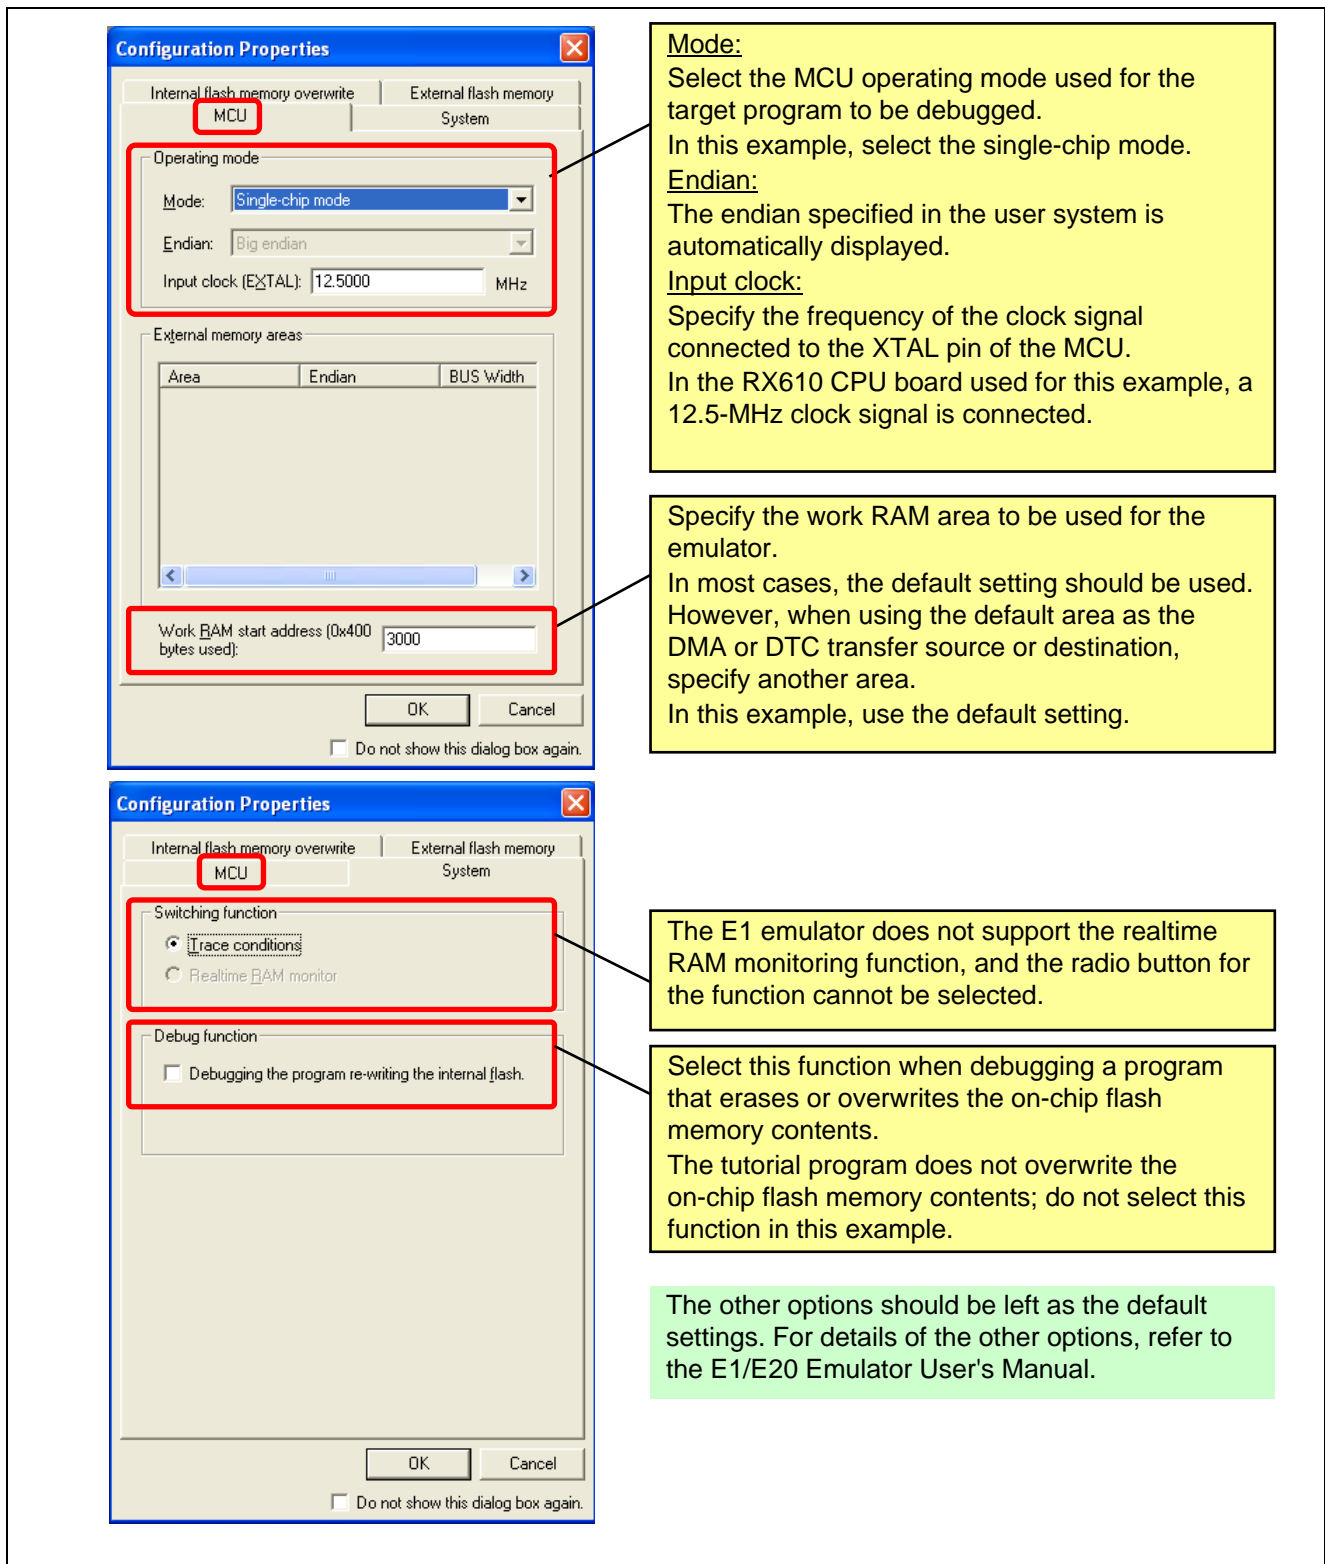

Figure 4.8 [Configuration Properties] Dialog Box
- (2) The [Configuration Properties] dialog box shown in Figure 4.8 will appear. Check that the options in the [MCU] and [System] tabs are set as shown in Figure 4.8 and click on the [OK] button.